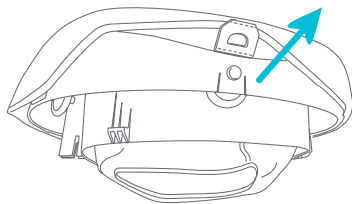

Fig. 7a
- 7 • To remove the seat fabric for maintenance, pull out all the plates from the tab on the seat base (Fig. 7a).